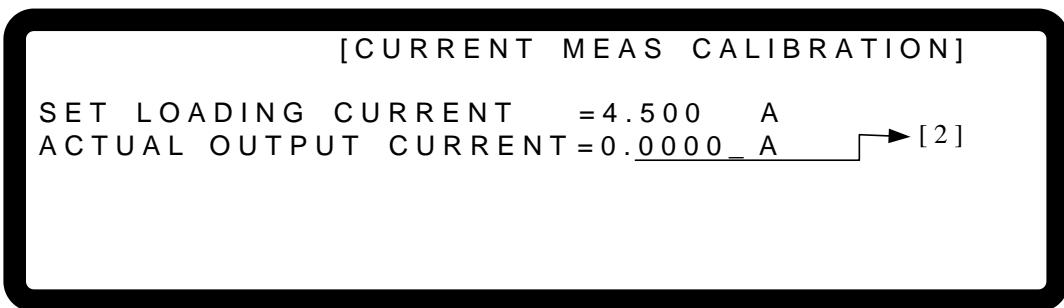

Figure 3-113
8. Next, press “” to do the 4.5A calibration. The cursor will stop at position [2] as shown in Figure 3-113 for setting the loading current of the Electronic LOAD to 4.500A. Enter the current read by the Current Shunt (DVM) and press “” to confirm and wait for it to end. Use 1.5A and 4.5A for calibration; the system will calculate the calibration factor for the low current range.